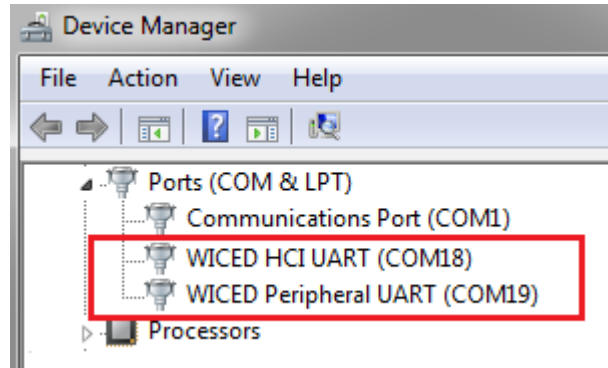

Figure 3-2. Device Manager COM Ports
**Note:** In Figure 3-2, Device Manager identifies the new WICED evaluation board USB serial COM ports as 'WICED HCI UART' and 'WICED Peripheral UART'. Assigned port numbers vary among systems.